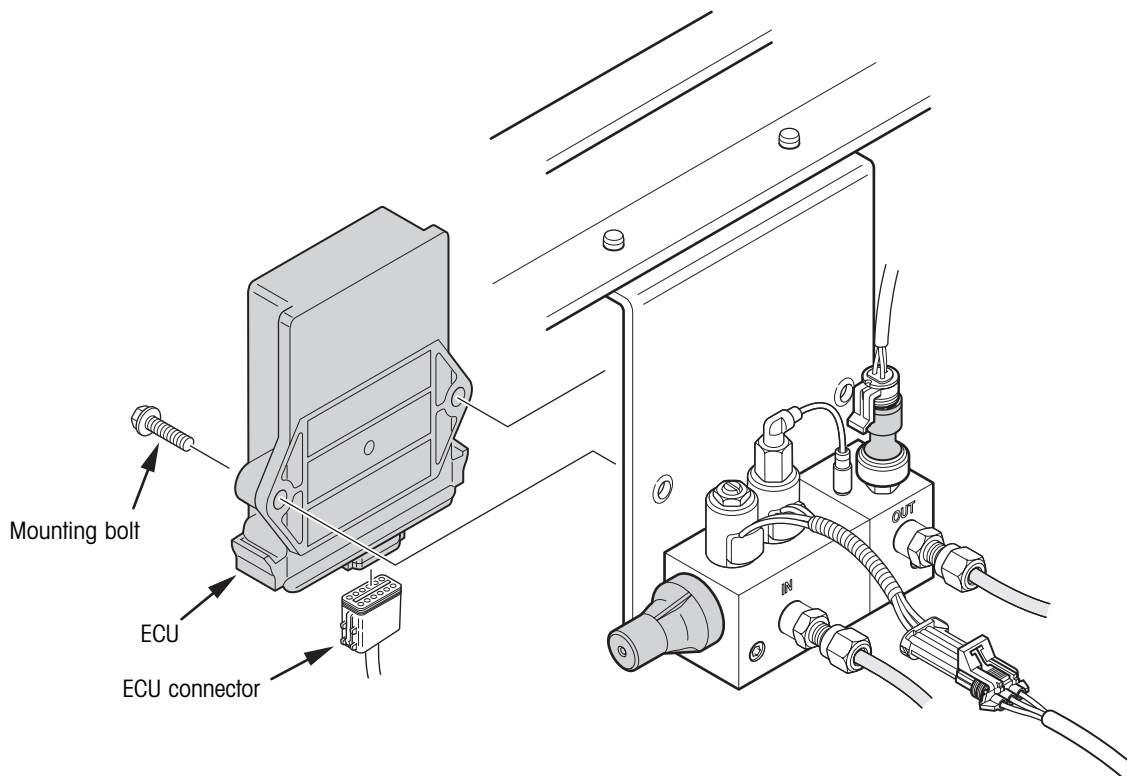

Figure 32. ECU replacement
2. Disconnect the ECU connector (figure 32).